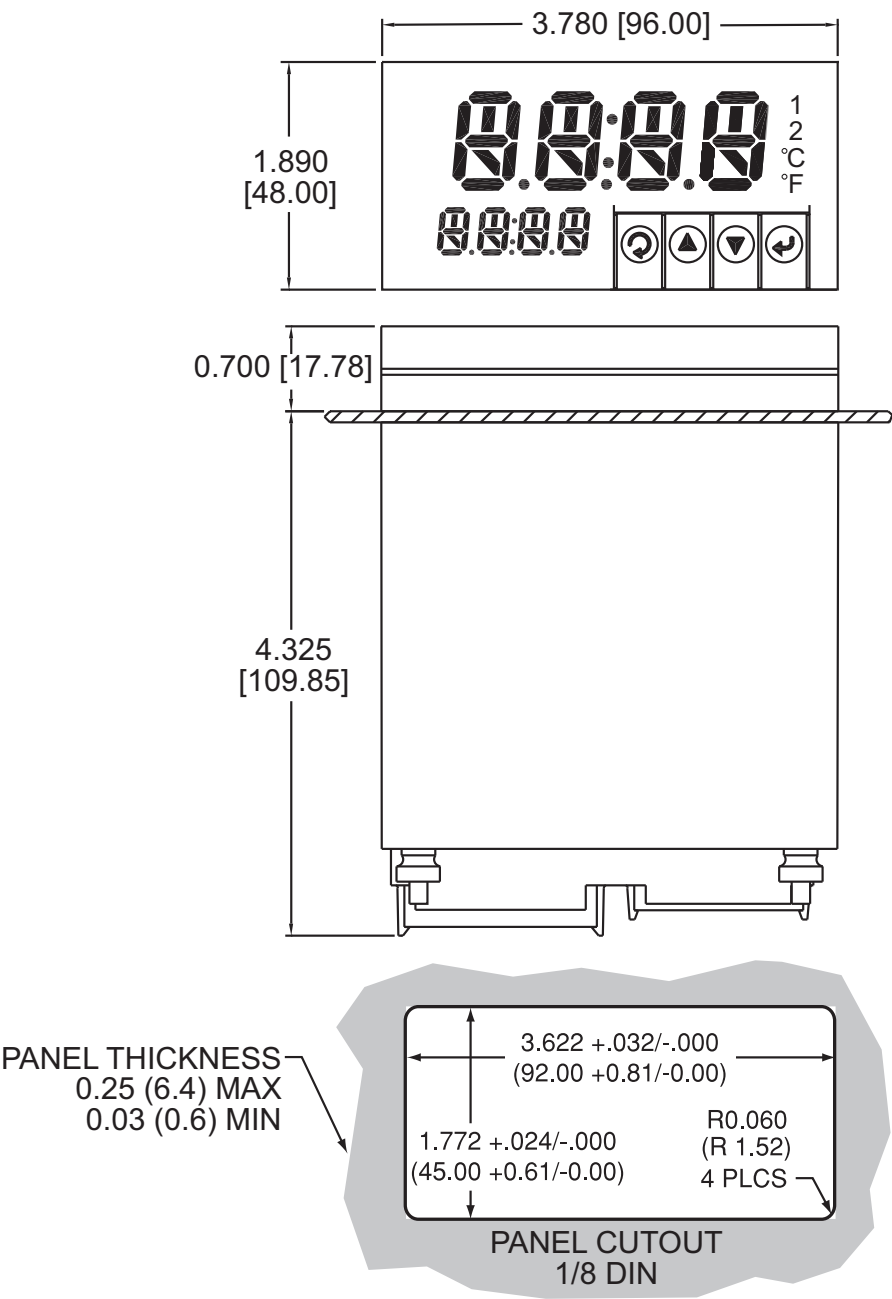

Figure 2.3 Mounting Dimensions
1. Using the dimensions from the panel cutout in **Figure 2.3**, cut an opening in the panel.